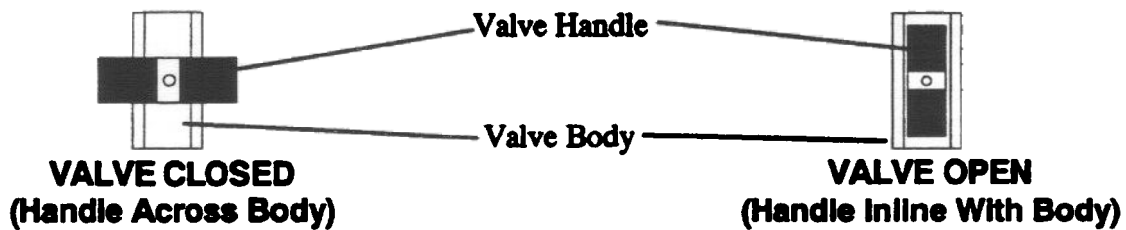

Figure 2-1 Fryer Illustrating Filter Components
This section describes the procedures used to filter fryers using the solo filter unit. Figure 2-1 shows the locations of the components used in the filter process. The filter accessories and tools you should have to perform normal filtering operations are described on page 2-5. Frequent filtering of your shortening will prolong the shortening's usable life. Daily shortening filtering is strongly recommended.
2.4.2 Filter Procedures: Numbers in parenthesis refer to Figures 2-1 and 2-2.